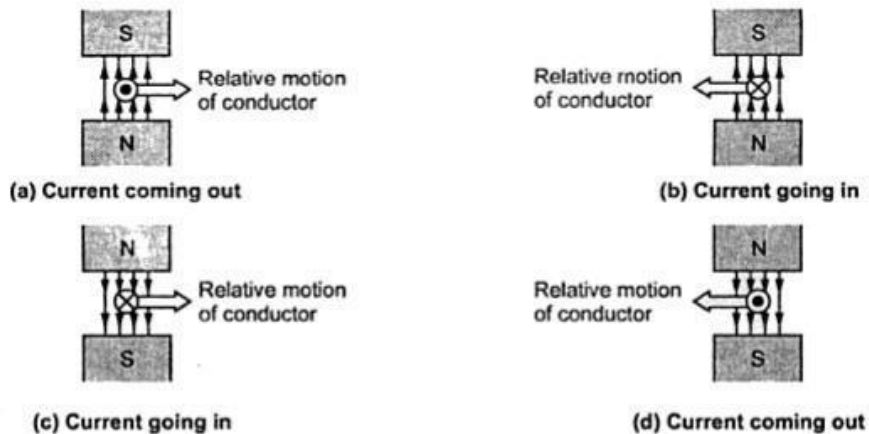

Fig. 2.7 Fleming's right hand rule
Verify the direction of the current through conductor in the four cases shown in the Fig. 2.7 by using Fleming's right hand rule.
**Key Point :** It can be observed from the Fig. 2.7 that if the direction of relative motion of conductor is reversed keeping flux direction same or if flux direction is reversed keeping direction of relative motion of conductor same then the direction of induced e.m.f. and hence direction of current it sets up in an external circuit gets reversed.